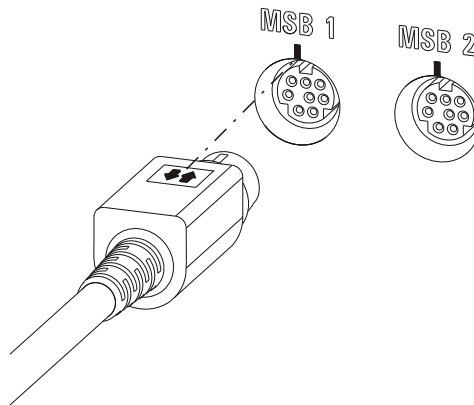

Figure 6 MSB connector
- When making the connection, take care to ensure that the flat part of the MSB plug marked with arrows is pointing in the direction of the marking on the MSB connector (see figure 6, page 16).